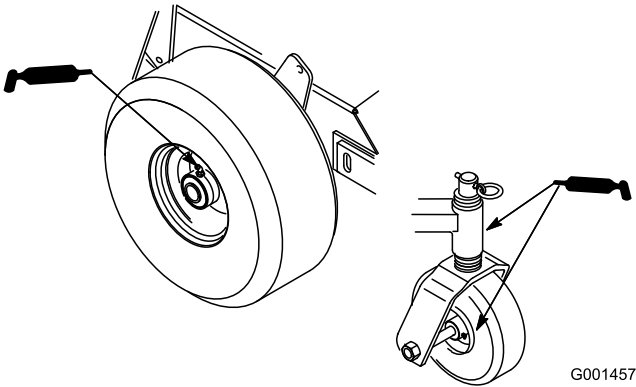

Figure 19
1. Lubricate the front wheel bearings and front spindles (Figure 19).